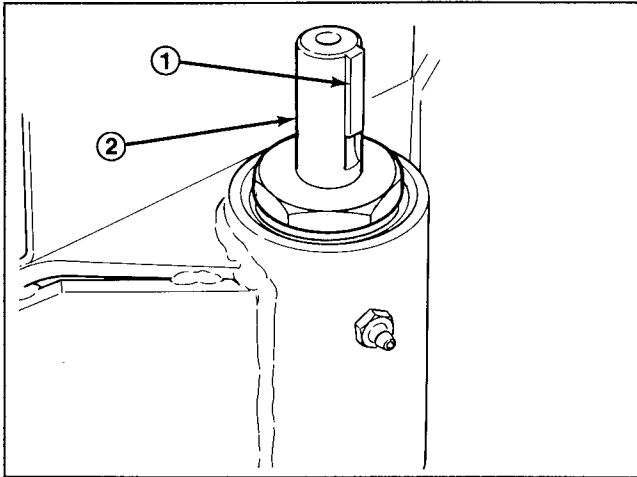

Figure 1
1. Insert key into key way on handle mounting shaft (Fig. 1)